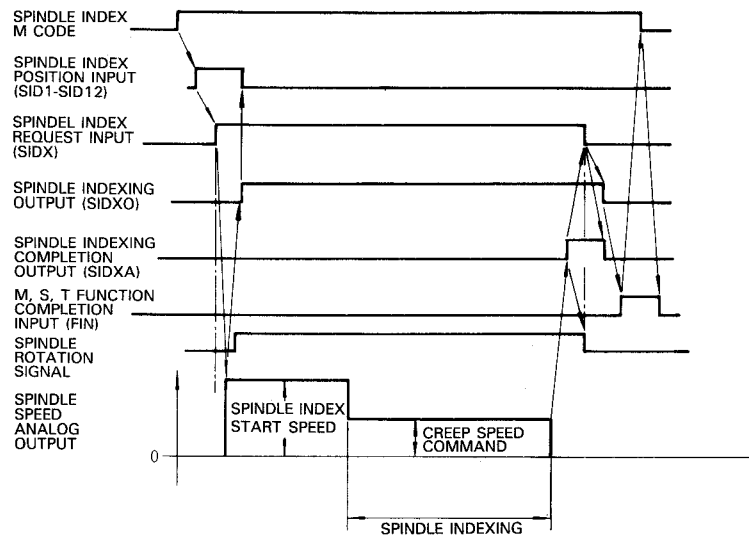

Fig. 19.16
(3) SPINDLE INDEX TIME CHART
- Spindle index by M-code at spindle stop (Spindle positioning is released after spindle index is completed.) See Fig. 19.16.